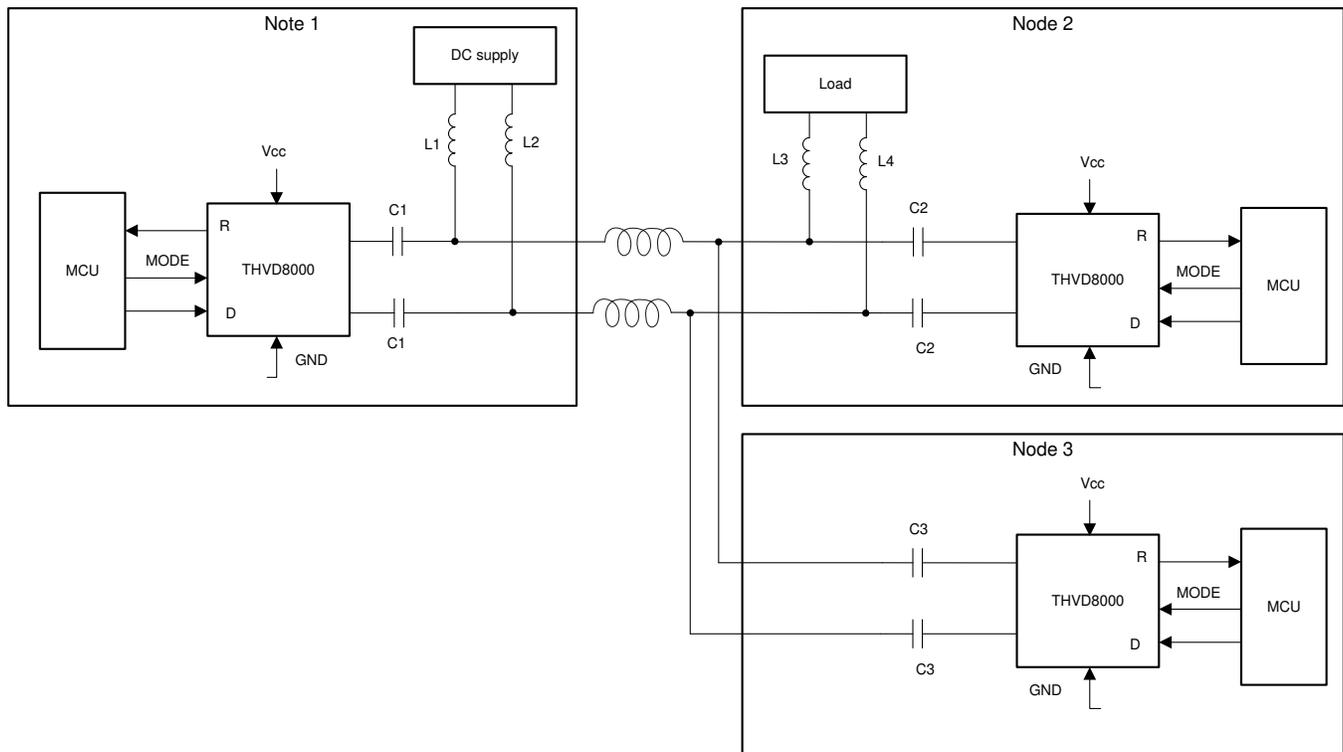

Figure 14. THVD8000 Multiple Nodes Setup
As previously mentioned, the THVD8000 has both similar driving strength and similar receiver sensitivity comparing to an RS-485 transceiver. To evaluate signal attenuation on the bus, include all cable loss and loading on the bus due to termination, decoupling inductances and input impedances of multiple nodes. The cable loss and inductor loading were previously discussed in this application report. The input impedance of the THVD8000 receiver is about 1/8 unit load (UL) measured in RS-485 standard. Any other external components attached to the bus like TVS diodes could have an impact with multiple nodes and at high carrier frequency. Among all the nodes, not all have to function as delivering both data and power. Some nodes can be self-powered and have data transmission only, like node 3 in Figure 14.